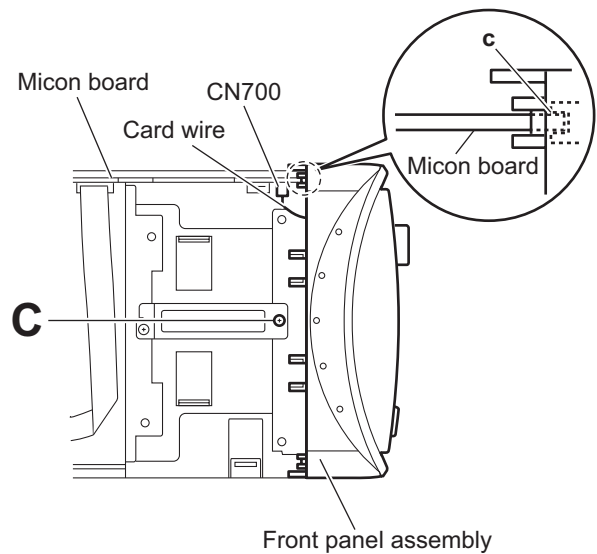

Fig.5
- (3) From the top side of the main body, remove the screws **C** attaching the front panel assembly. (See Fig.5.)
When attaching the front panel assembly, fit the micon board to the notch **c** on the back side of the front panel assembly. (See Fig.5.)